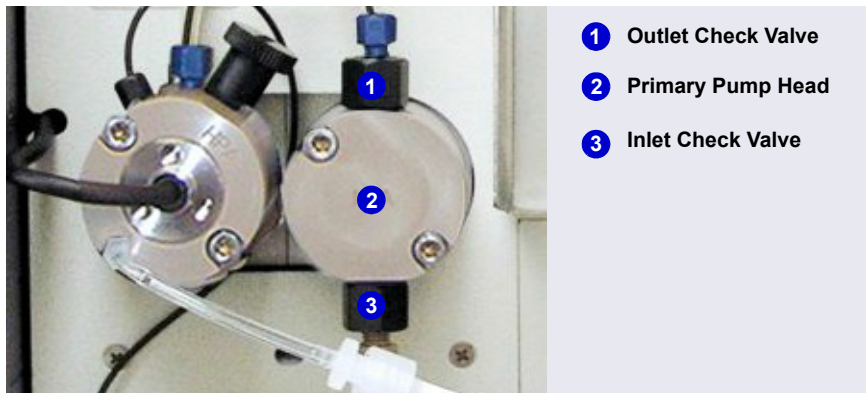

Figure 10-4. DP/SP Check Valves
7. The check valves are installed in the primary pump head (see Figure 10-4).